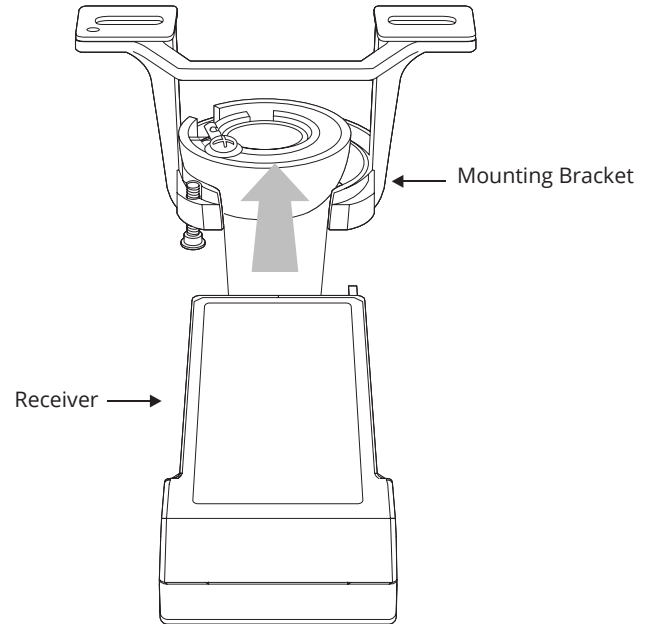

FIG. 10
Insert the receiver into the mounting bracket with the flat side of the receiver facing the ceiling (**FIG. 10**).
1. Tightly twist the decorative lower cap onto the motor assembly (Fig 10).